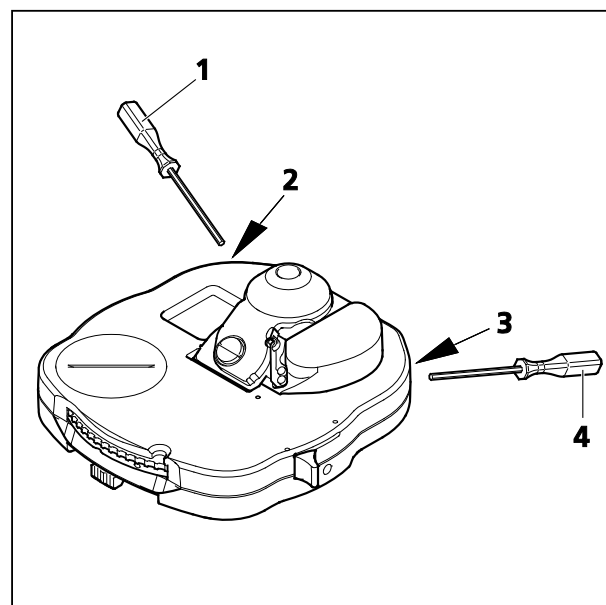

Fig. 193 Centering the darkfield aperture on the universal condenser
(2) Instrument equipment
(3) Setting transmitted-light darkfield
- To center the darkfield stop, use the two SW 1.5 Allen screwdrivers (Fig. 193/1 and 4) to turn the two centering screws (Fig. 193/2 and 3) until the exit pupil of the objective appears homogeneously dark. After centering, remove both SW 1.5 screwdrivers from the condenser.